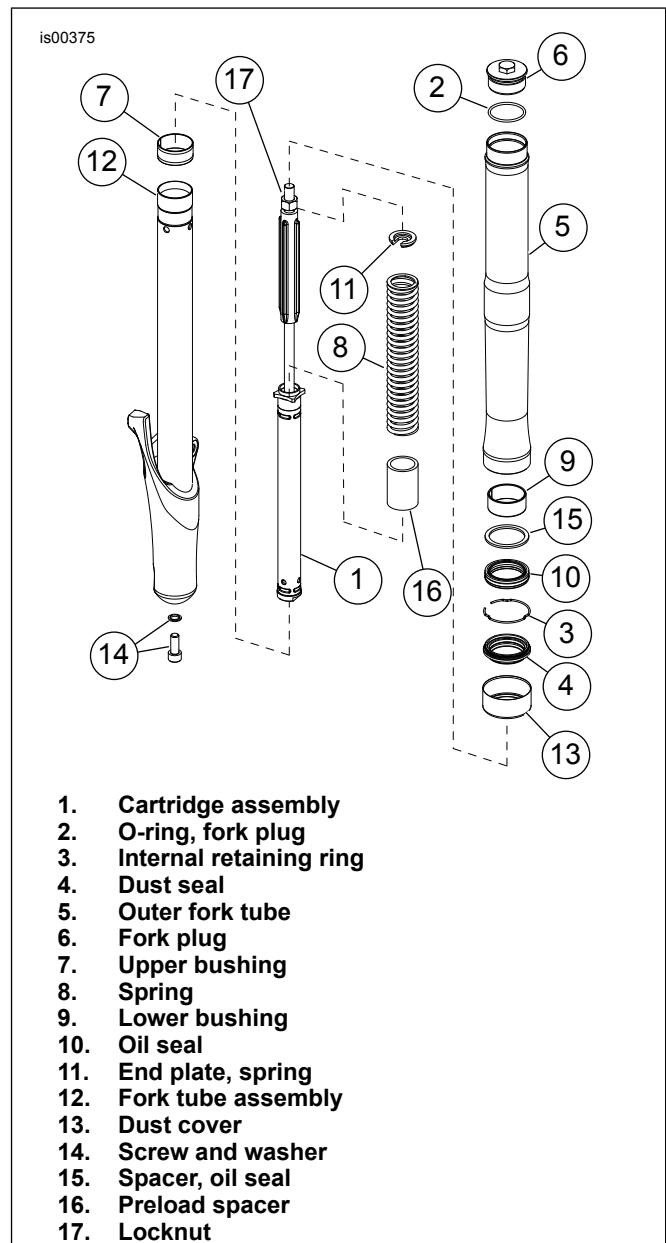

Figure 3. Inverted Fork (left side shown)
- b. See Figure 3. With the fork tube at the bottom, clamp outer fork tube between rubber pads on inboard side of tool. Tighten knobs until fork tube is securely held.
See Figure 3 for Steps 2 through 10.
See Figure 3 for Steps 1 through 17, unless otherwise stated.
13. See Figure 3. Thread locknut (17) down the cartridge until it bottoms out.
14. Install spring (8) into fork tube.
15. Install new O-ring from rebuild kit onto fork plug (6).
16. Press down on spring (8) and install spring end plate (11) between spring and locknut (17) with the concave side up.
17. Install fork plug (6) onto cartridge assembly (1). Thread plug all the way down until it bottoms out, then thread locknut (17) up to the plug and tighten.